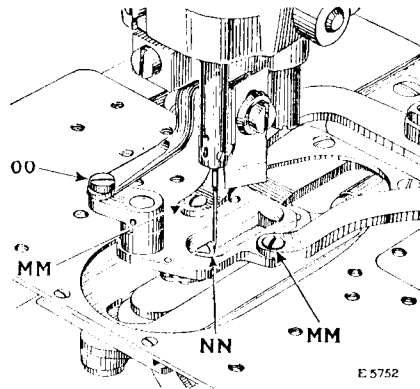
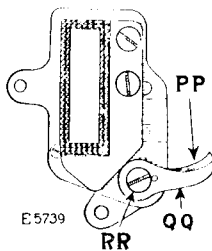

Fig. 25. Adjustments for Setting Upper Thread Trimmer
Fig. 26. Showing Upper Thread Trimming and Clamping Blades
Remove the screw (OO, Fig. 25) from the connecting rod and take out the two clamp arm screws (MM, Fig. 25), then remove the clamp check from the machine. Remove the screw (RR, Fig. 26) from the underside of the clamp check which holds the clamping and trimming blades in position and remove the blades.
When replacing the blades, place the clamping blade (PP, Fig. 26) in position first next to the clamp check then put on the
trimming blade (QQ, Fig. 26) and securely fasten both blades in position by means of the screw (RR), being careful to set the clamping blade about $\frac{1}{16}$ inch in advance of the trimming blade as shown in Fig. 26. Then fasten the clamp check to the machine by means of the three screws (OO and MM, Fig. 25).
When the trimming blade is being moved into cutting position, it must clear the needle by $\frac{1}{32}$ inch as shown at NN in Fig. 25, when the needle is on the inside throw on the finishing side of